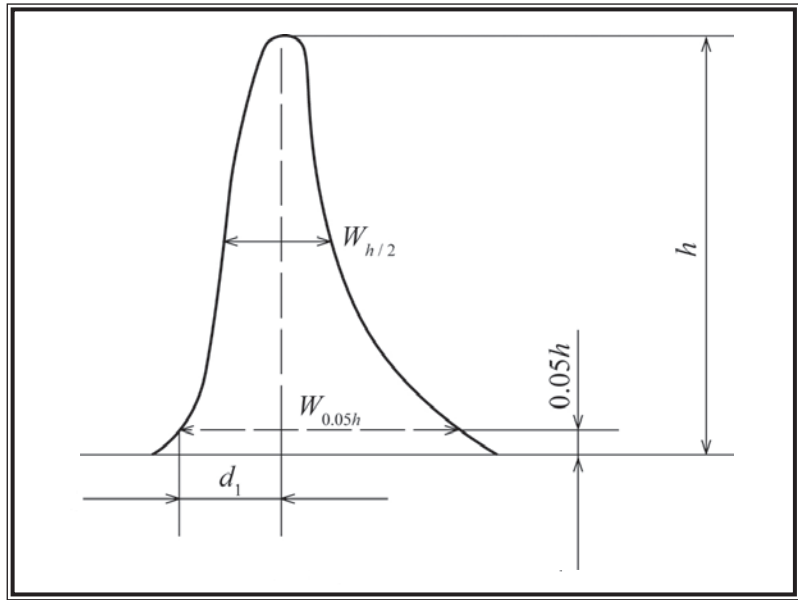

Figure 2 Parameters for calculation of tailing factor (T)
- (d) **Tailing factor (*T*)** – It is necessary to inspect the *T* value (Fig. 2) of the peak, especially when using the peak height method. It should comply with the requirement specified in the individual monograph. The *T* value is calculated by using the following equation –